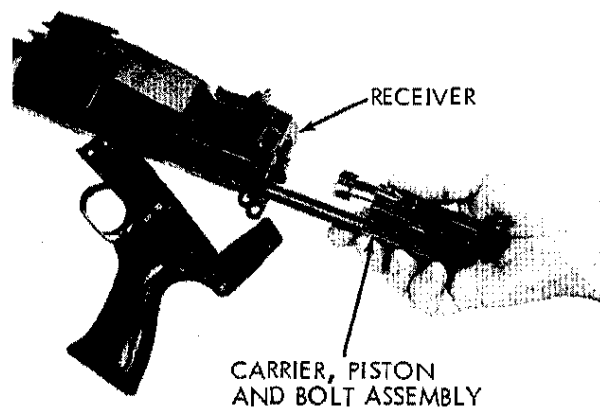

FIGURE 9. REMOVING CARRIER, PISTON
(4) Place the right hand over the back of the receiver and rotate the muzzle up slowly. The carrier, piston and bolt assembly will slide out of the receiver (fig. 9).